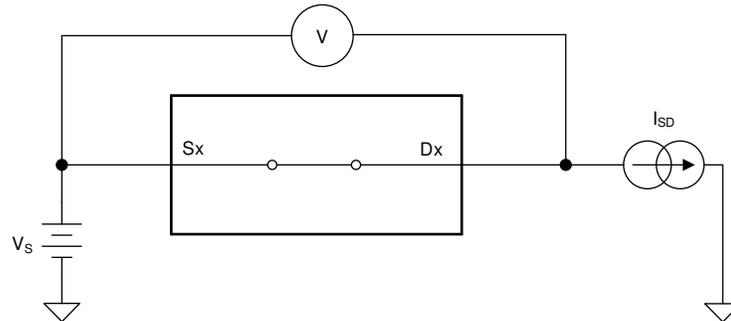

Figure 27. On-Resistance Measurement Setup
The on-resistance of a device is the ohmic resistance between the source (Sx) and drain (Dx) pins of the device. The on-resistance varies with input voltage and supply voltage. The symbol  $R_{ON}$  is used to denote on-resistance. The measurement setup used to measure  $R_{ON}$  is shown in Figure 27. Voltage (V) and current ( $I_{SD}$ ) are measured using this setup, and  $R_{ON}$  is computed as shown below with  $R_{ON} = V / I_{SD}$ :